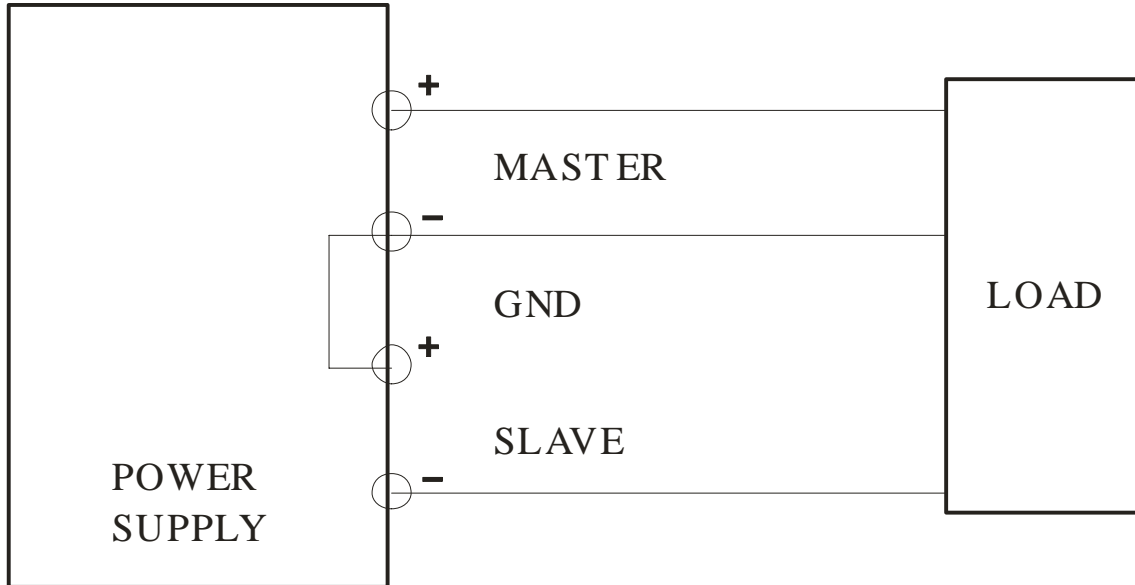

Fig.4-4 Positive and Negative Supply.
A. Positive and Negative supply (Fig.4-4).
(2) Series Tracking Operation